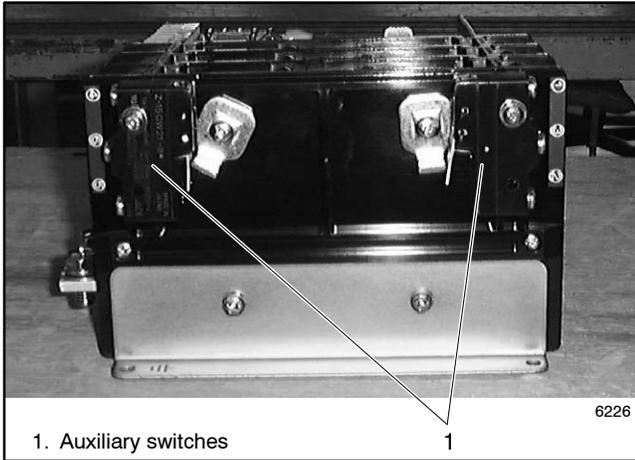

Figure 6-3 Auxiliary Switches
3. Remove the auxiliary switches. See Figure 6-3.